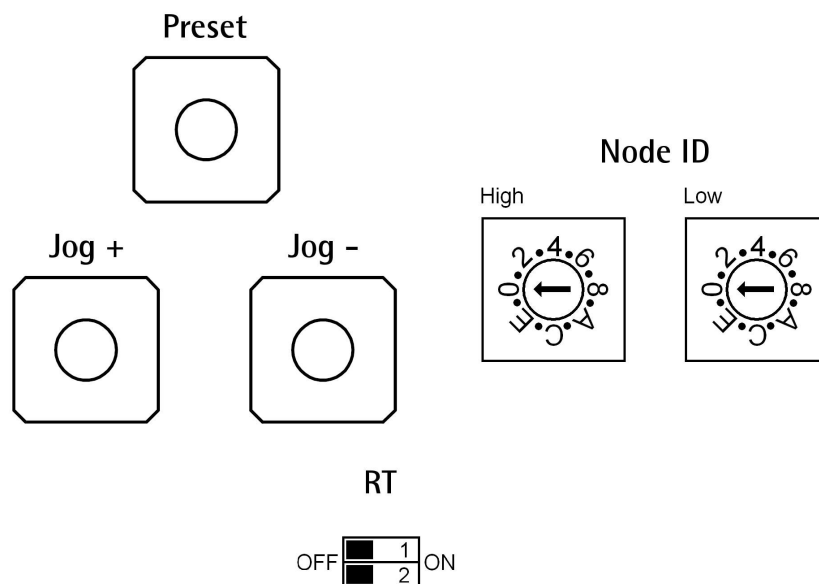

Figure 5: Dip-Switches and buttons
4.4 Dip-Switches and buttons (Figure 5)
4.4.1 Setting the node address: Node ID (Figure 5)
4.4.2 RT bus termination (Figure 5)
4.4.3 JOG + and JOG – buttons (Figure 5)
4.4.4 PRESET button (Figure 5)